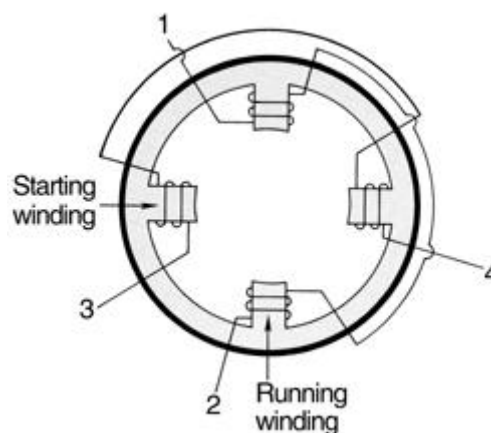

Figure 2: Split-phase windings in a two pole motor. Starting winding and running winding are 90 ° apart.
- *Split phase motors*, Figure 2, use both a starting and running winding. The starting winding is displaced 90 electrical degrees from the running winding. The running winding has many turns of large diameter wire wound in the bottom of the stator slots to get high reactance. Therefore, the current in the starting winding leads the current in the running winding, causing a rotating field.